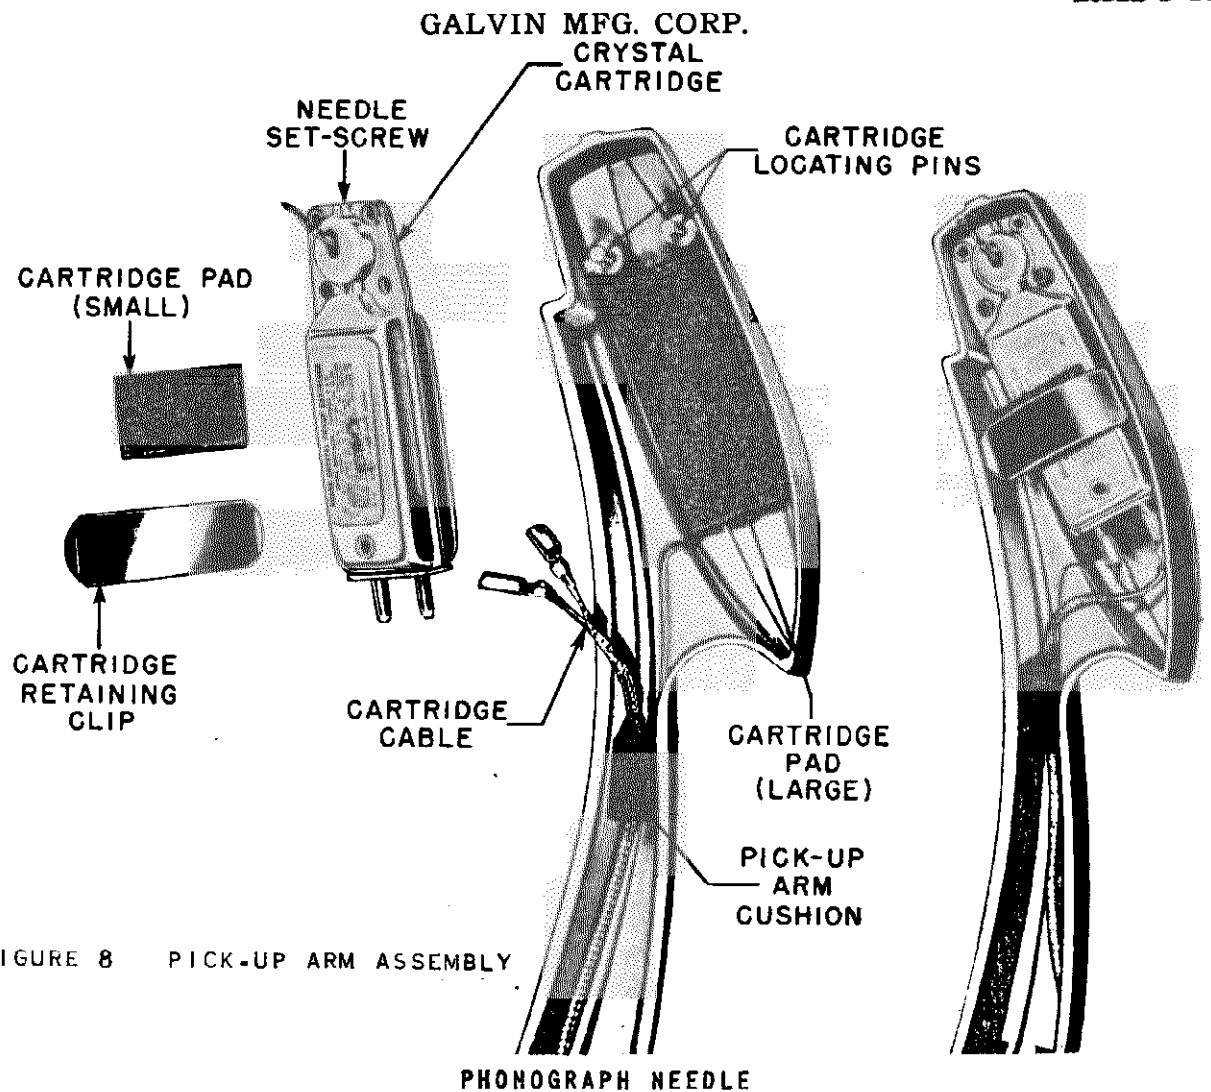

FIGURE 8 PICK-UP ARM ASSEMBLY
2. Models without thumbscrew. - Proceed as follows: Refer to Figure 8.